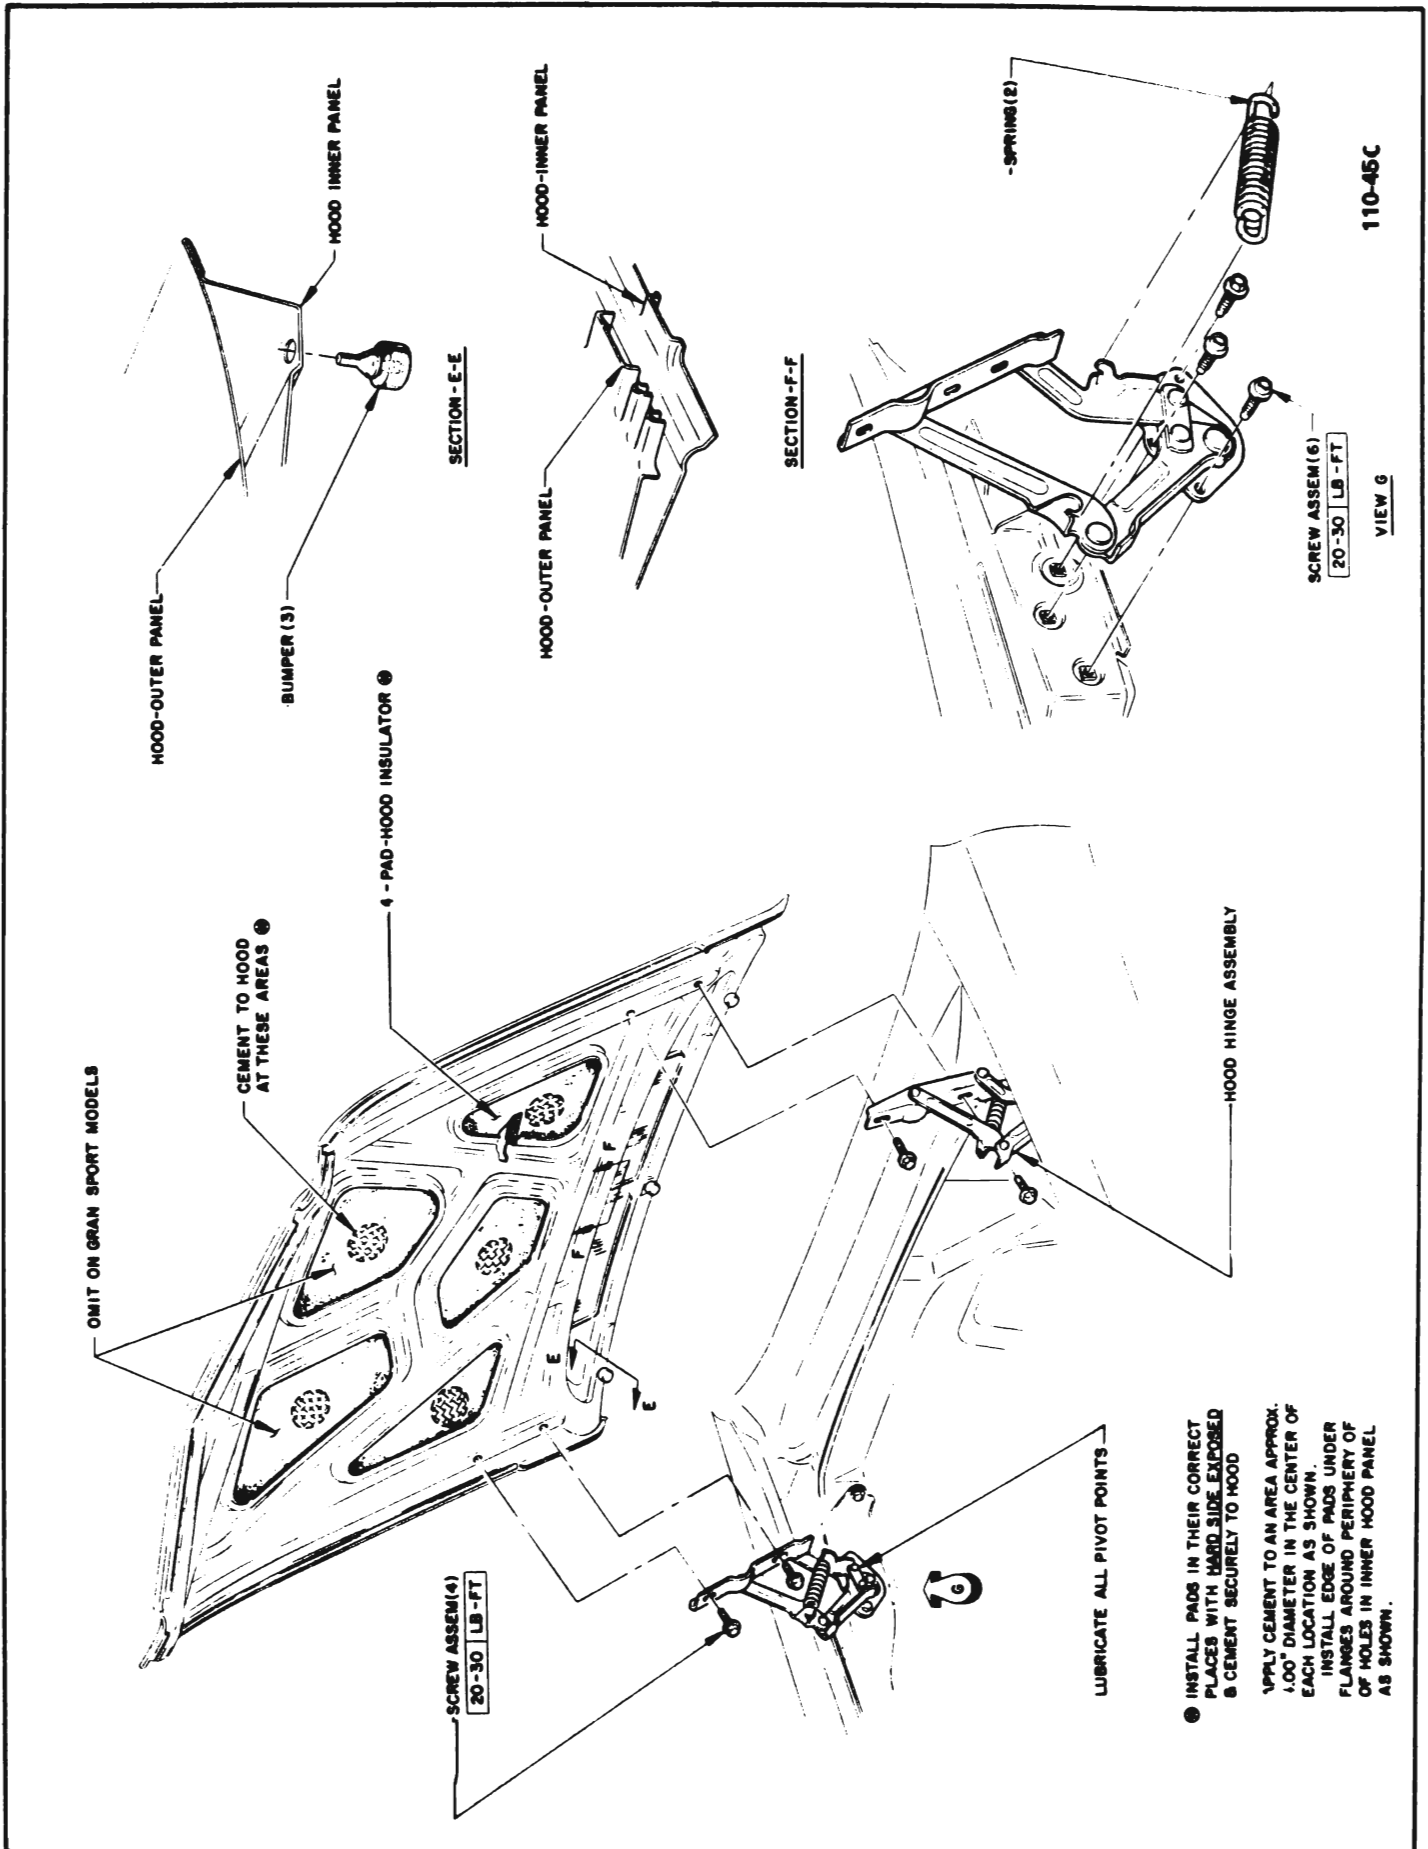

Figure 110-9 43-44000 Hood, Hood Hinge
The rear of the hood assembly is attached to the fender on each side by hinge assemblies which permit the front of the hood to be raised. A heavy coil spring connected between each hinge assembly assists in raising the hood and holds it in the open position. See Figures 110-9 and 110-10.
3. Scribe position of the hinge attachment on fender. Remove the three bolts attaching the hinge to the fender and remove the hinge. See Figure 110-9.